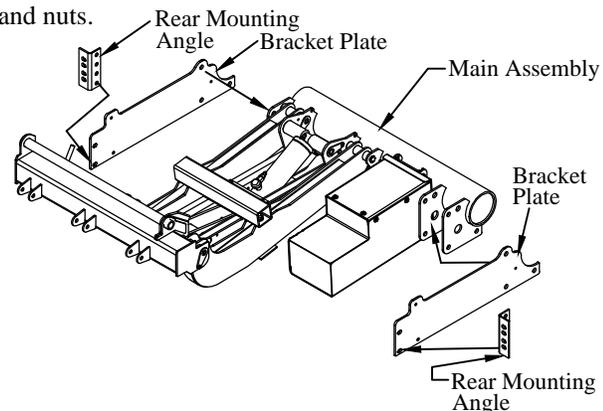

Figure 7: Bracket plate locations.
- 8. Install** the bracket plates on the main assembly using six (6) 5/8" x 1-1/4" bolts, lock washers, and nuts. The bolt head and lock washer should be on the outside (Figure 7).
- 9. Install** rear mounting angles with four (4) 1/2" x 1-1/4" bolts, lock washers, and nuts. Position the rear mounting angles using the bottom set of holes and slots.